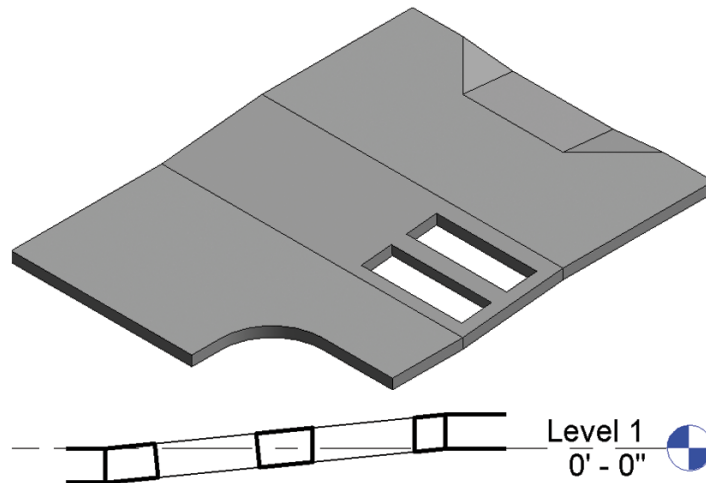

FIGURE 3.13 Completed openings of the same size and dimensions
5. Select the **Vertical** tool from the **Opening** panel, and sketch a new opening of the same size and dimensions above the first one. The result resembles Figure 3.13.
The differences are subtle but very important. By creating a section through both openings, you can see the difference in an opening that remains perpendicular to the floor compared to one that remains perpendicular to the level (Figure 3.13).